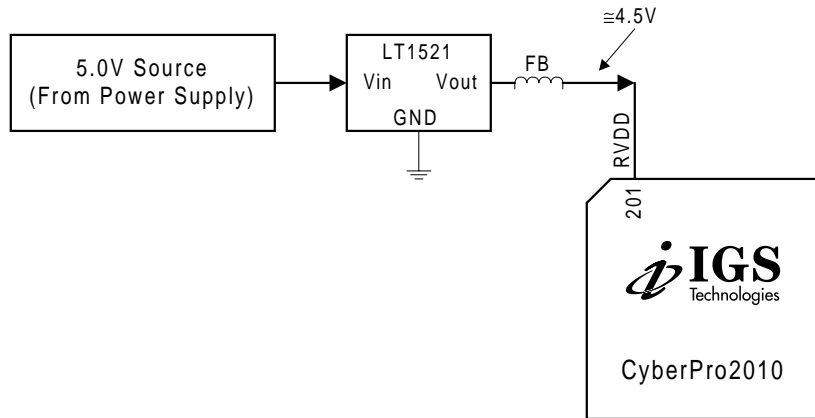

Figure 3-2: Optional RVDD Voltage Source
2. An optional method, for those situations that lack a 12.0V source, is to use a 5.0V source coupled with an LT1521 low dropout regulator for a 4.5V output as shown in Figure 3-2.
The circuit for the optional RAMDAC VDD source input is shown in Figure 3-2.